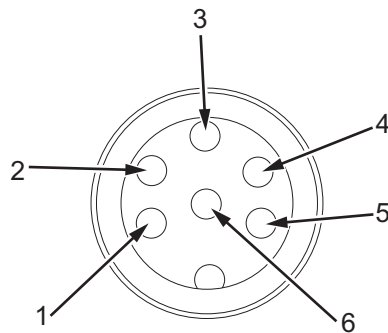

Figure 3-14: Status Output Connector Pin Diagram
The printer provides an output for a set of status lights through the status output connector (item 3, Figure 3-10 on page 3-10). This is a 6-way DIN connector. The pin allocation is shown in Table 3-5 and Figure 3-14.
Note: Figure 3-14 represents the view of the connector on the side of the printer.